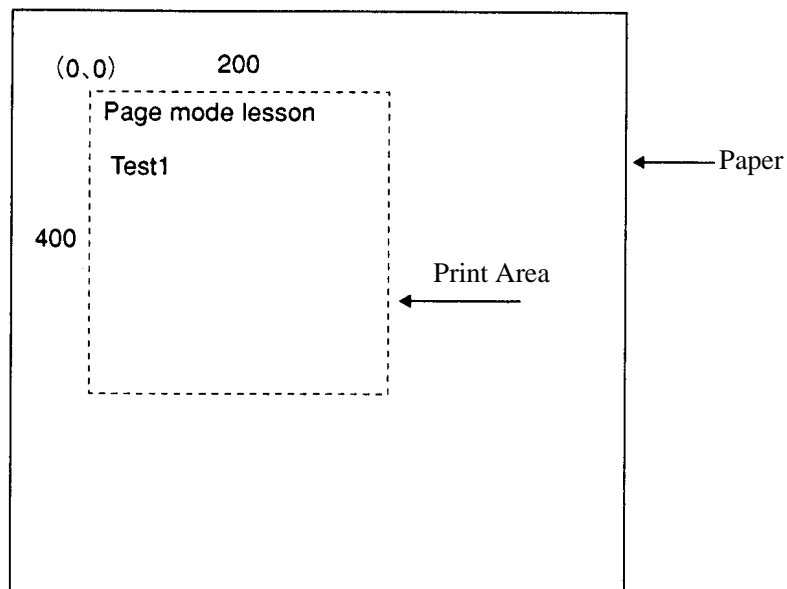

Figure 1-1
In Figure 1-1, a line feed occurs between "lesson" and "Test 1" because "lesson" and the next space " " do not fit in the horizontal range of the 200 (400)-pitch print area. The line feed width conforms to the value specified by a command such as ESC 3.